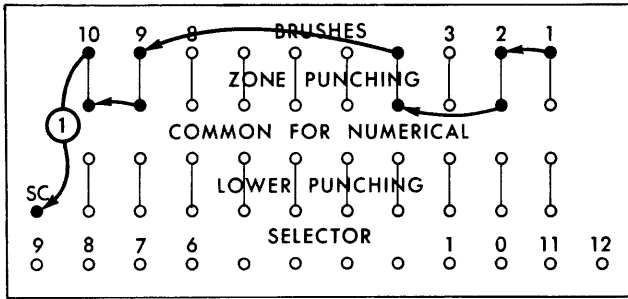

Figure 37. Common-Digit Selection (82)
**Common-Digit Selection:** Figure 37 shows the control panel wired so cards with an X-punch in any of brush positions 10, 9, 4, 2, and 1 are selected into pocket 11. All other cards are rejected.
1. The zone-punching hubs of each position are wired together and to the sc hub (Figure 37).